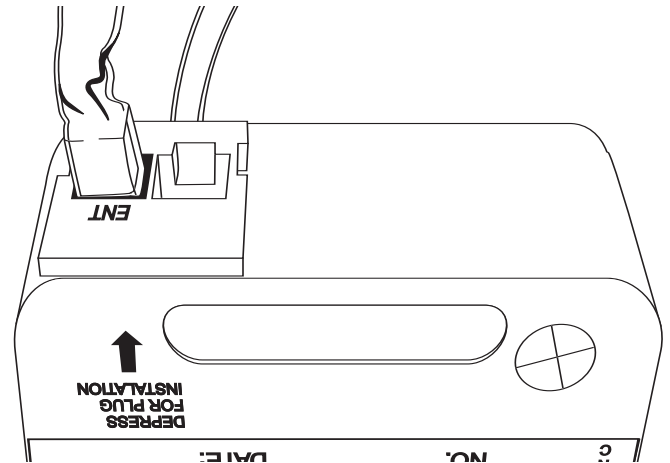

Figure 11
- 2). Carefully insert the entry cable plug into the lock at the “ENT” position, see *Figure 11*.